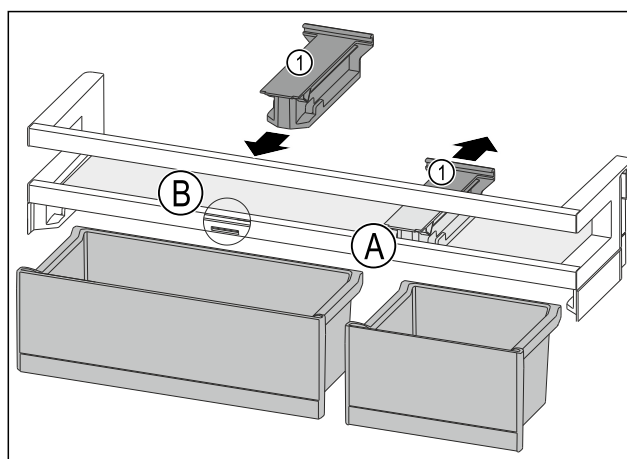

Fig. 122
- Pull off the retaining part Fig. 122 (1) in position Fig. 122 (A) downward.
- Insert the retaining part Fig. 122 (1) in position Fig. 122 (B).